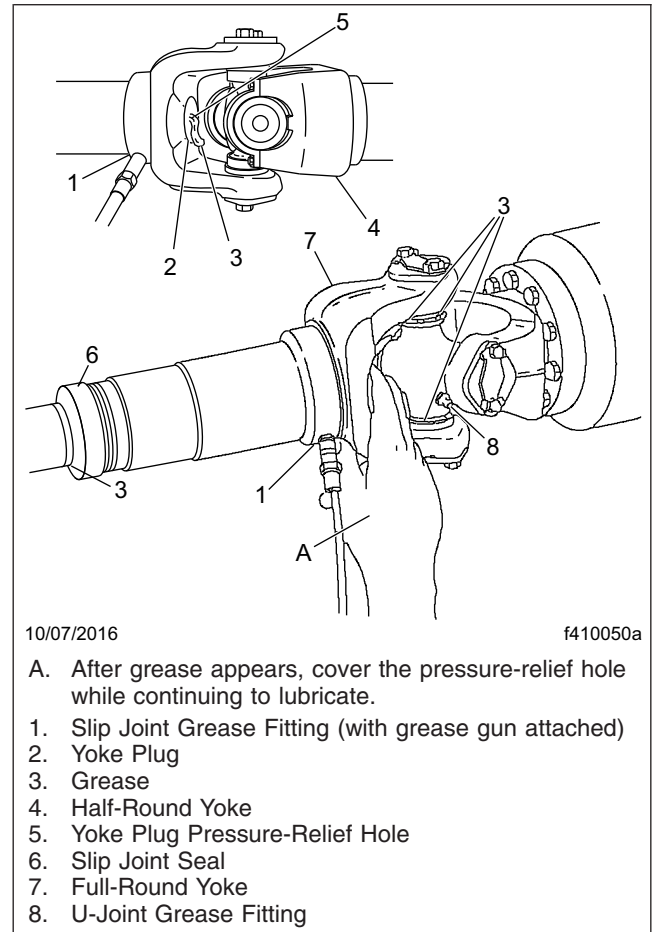

Fig. 6, Slip Joint and U-Joint Lubrication
9. For driveshafts with slip joints, check to be sure the yoke plug is not loose or missing. See Fig. 6. Repair or replace the yoke plug as needed. If the yoke plug is missing, the splined shaft may be hitting the plug and knocking it out; contact your
2. Wipe all old grease and dirt from each U-joint grease fitting. See Fig. 6.
gun pressure until new grease appears at the slip joint seal. See **Fig. 6**. This ensures complete lubrication of the splines.
1. If equipped with a grease fitting, wipe all old grease and dirt from the slip joint grease fitting. See **Fig. 6**.